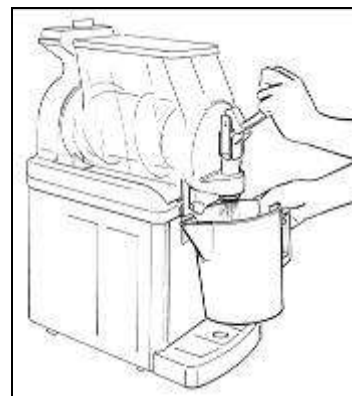

Fig. 12
- Empty the bowl and repeat the same operations until the coming out water is clear (fig.12).